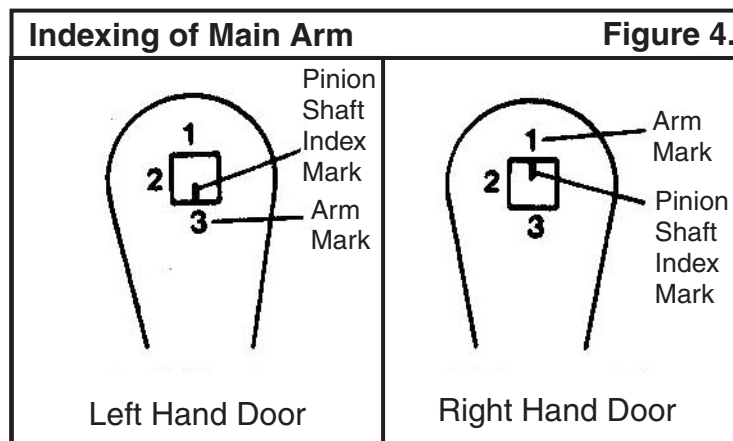

Figure 4.
6. Following the main arm indexing illustrations in figure 4, place main arm onto the closer pinion shaft. Install and tighten main arm screw with a 1/2" wrench.